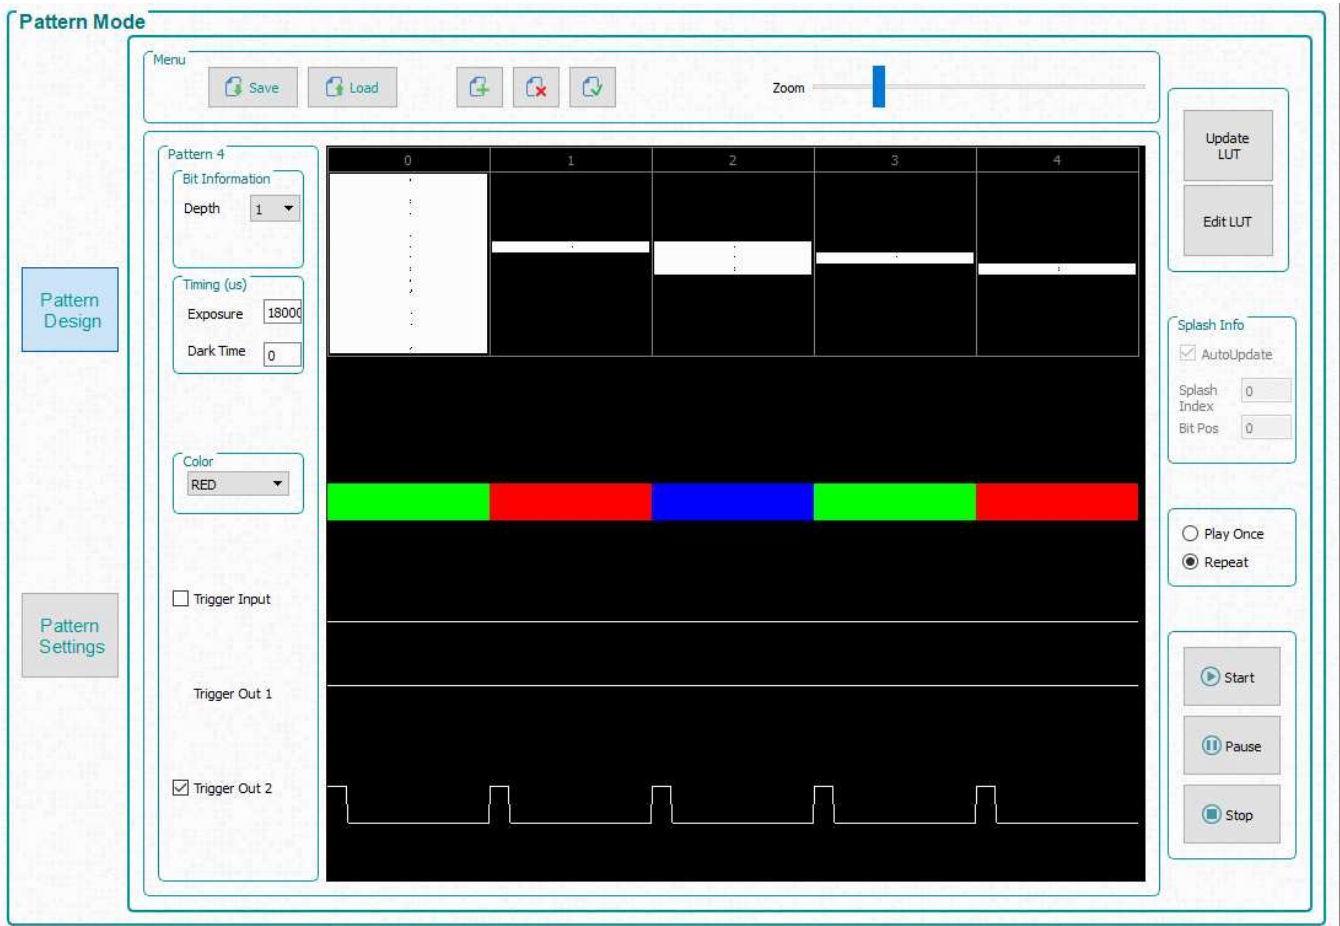

Figure 3-13. DMD Block Load Pattern Sequence
4. The pattern design should look similar to Figure 3-13.